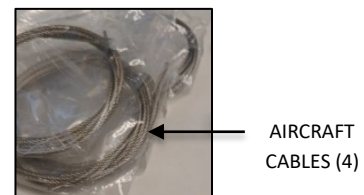

FIG. 7 MOUNTING KIT CONTENTS
- a. MOUNTING KIT (as shown in FIG. 7)
- i. FOUR (4) AIRCRAFT CABLES